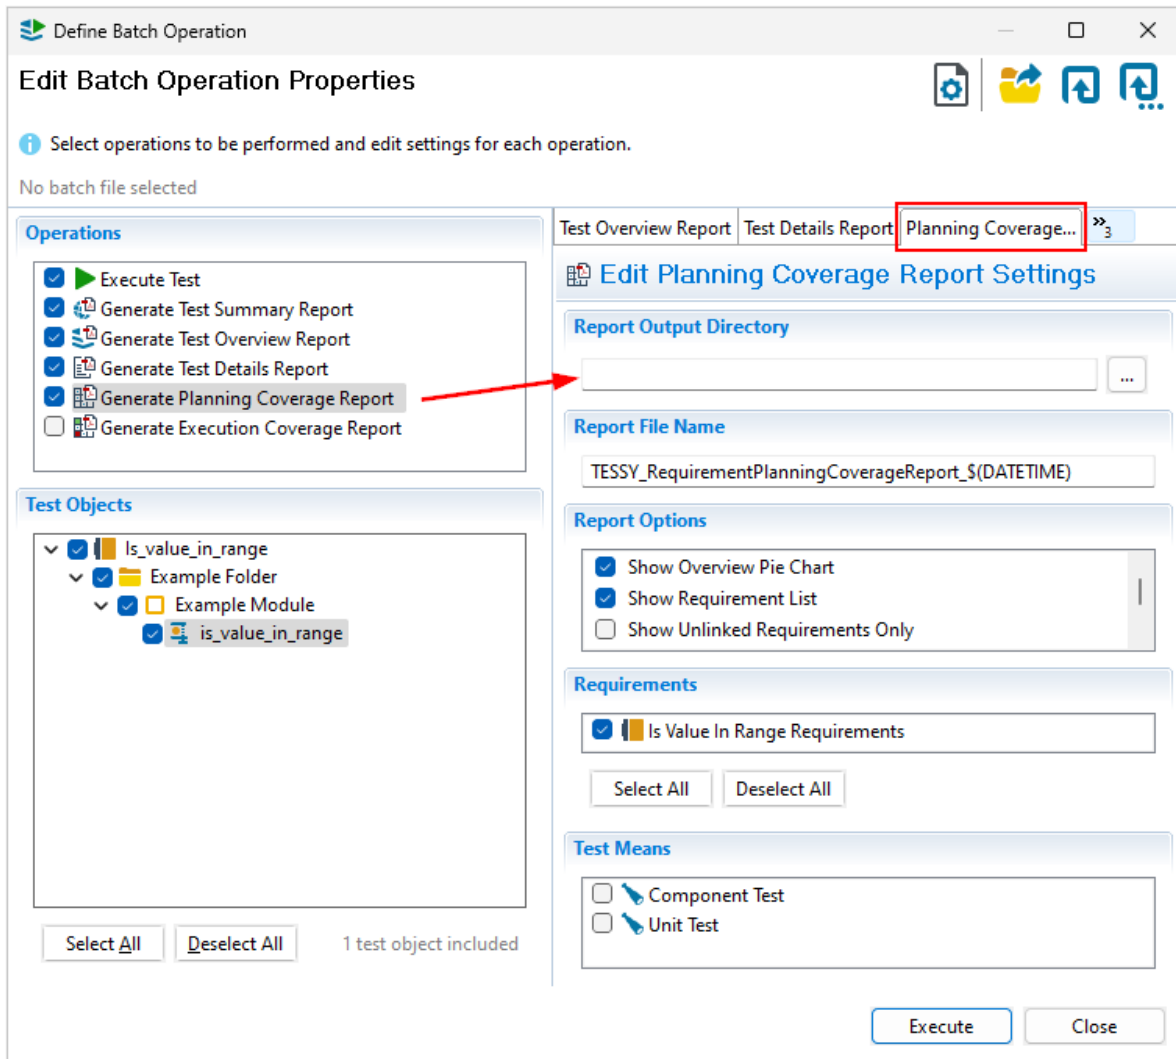

Figure 6.57: Editing the settings of each batch operation
- Switch to the setting by either marking the operation on the left side or use the tabs on the upper right side (see figure 6.57). The optional settings for this operation will then be shown on the right side of the window.